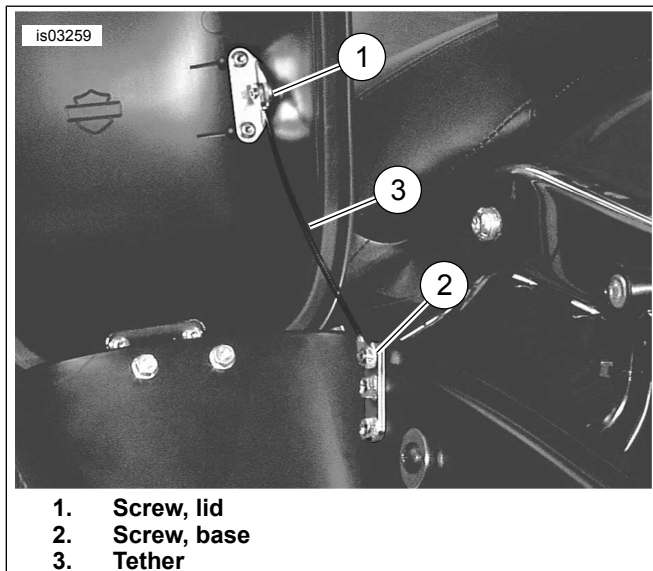
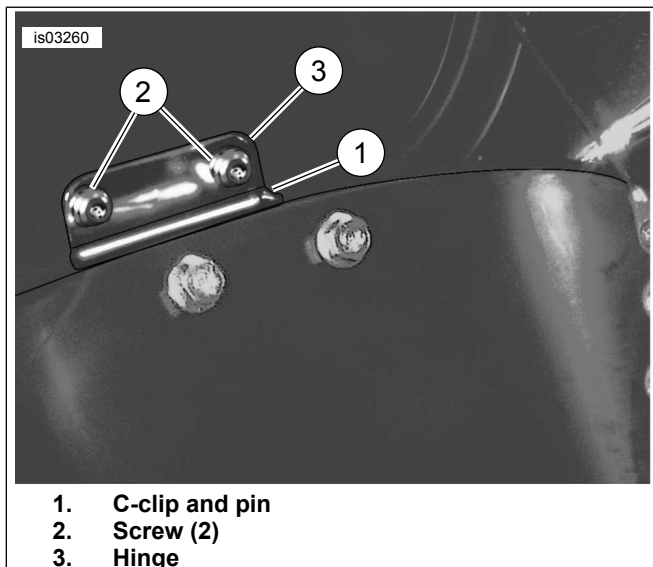
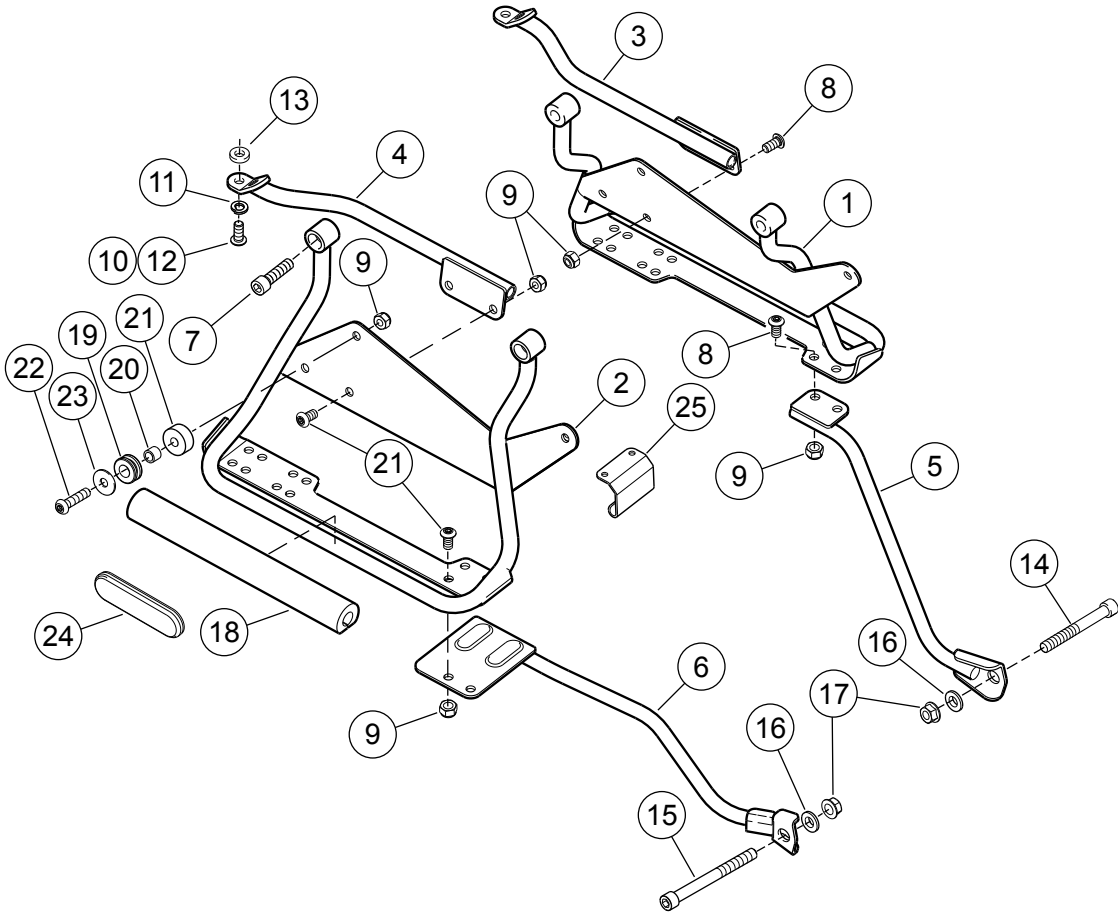

Figure 16. Remove Tether
Figure 17. Remove Hinge
Figure 18. Service Parts: Saddlebag Bracket Kit (88205-07A) and Hardware Kit (88208-07A)
When installing the left side footpeg support, use the 3 in. bolt (Figure 18, Item 14). When installing the right side footpeg support use the 4-1/2 in. bolt (Figure 18, Item 15).
1. See Figure 18. Install two screws (8) through saddlebag support hangers (1, 2) and into forward support bracket (5, 6). Secure with nuts (9). Tighten nuts to 13.1 N-m (120 in-lbs).
2. Tighten nuts (17) on forward support bracket to 34–41 N-m (25–30 ft-lbs).
3. Install rubber isolator (18) over saddlebag support hangers (1, 2) with "flat" side facing down.
4. See Figure 18. Install screw (22) and washer (23) from side saddlebag, through spacer (20). Then install nut (9), finger tight.
1. See Figure 16. Remove screws (1, 2) securing tether to saddlebag lid and base.
2. Remove tether (3) from saddlebag.
3. See Figure 17. Remove and save C-clip and pin (1) from hinge. Separate saddlebag lid from body.
4. Remove and save two screws (2) securing hinge to saddlebag lid.
- Slide hinge (3) out from under rubber seal.
- See Figure 18. Slide hinge (25) under rubber seal and fasten hinge half to saddlebag lid using screws (Figure 17, Item 2) previously removed. Tighten screws securely.
- See Figure 17. Install pin to hinge and secure with C-clip.